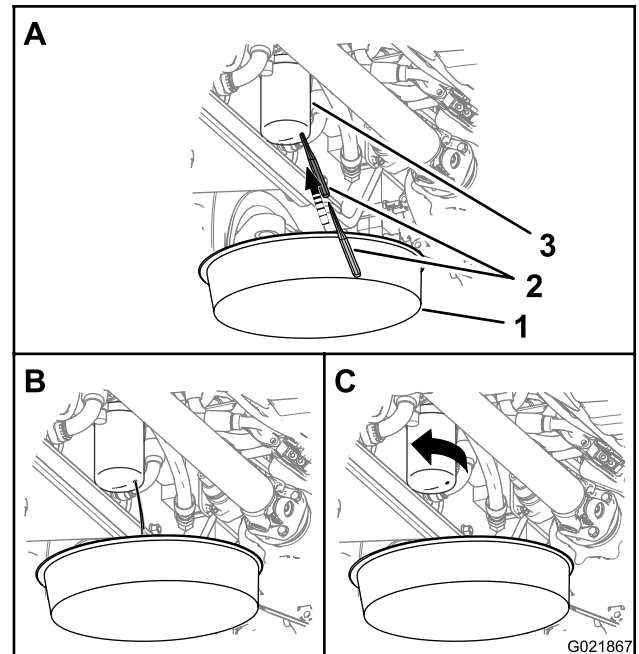

Figure 95
Note: You can access the hydraulic-pressure filter from under the right side of the machine, behind the hydraulic reservoir (Figure 95).
- Place a container under the hydraulic-pressure filter (Figure 95).
- Puncture the bottom of the hydraulic-pressure filter, and allow the residual hydraulic fluid to drain into the container (Figure 95).
- Rotate the hydraulic-pressure filter counterclockwise and remove the filter (Figure 95).